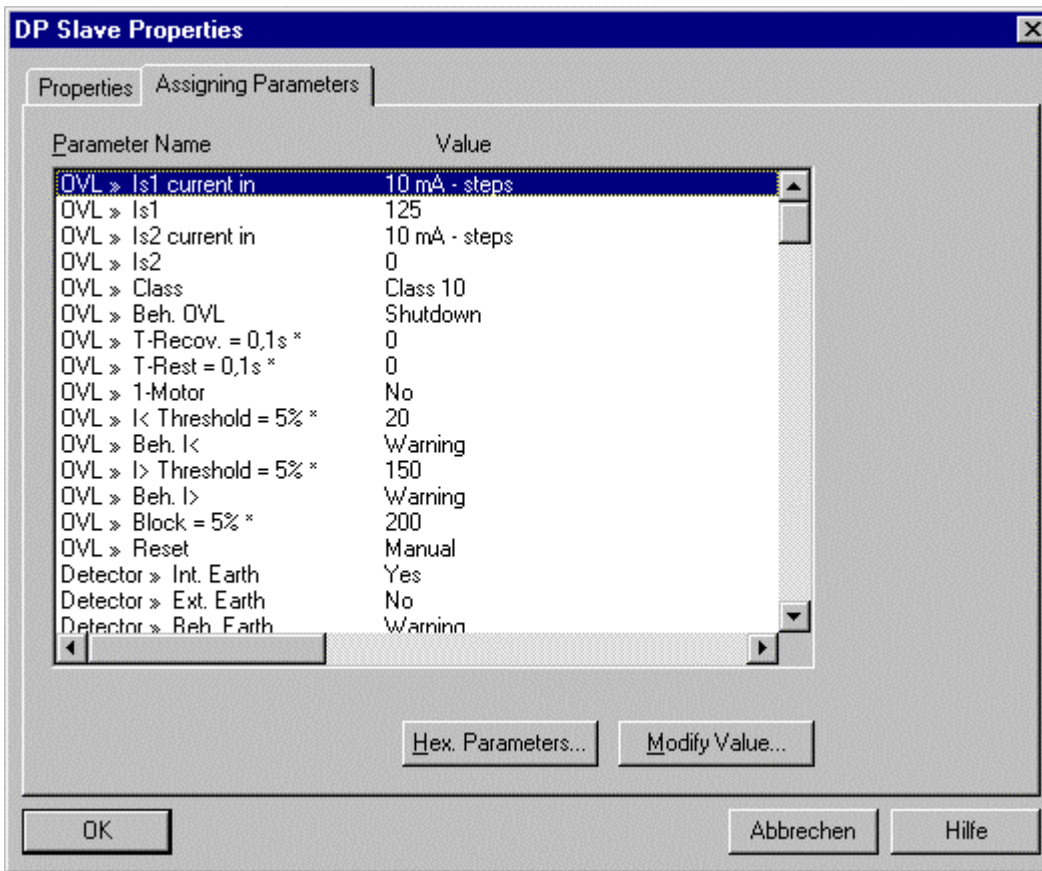

Figure 5
- Activate the **Change value...** button or double-click the relevant line and enter the appropriate value (Figure 5).